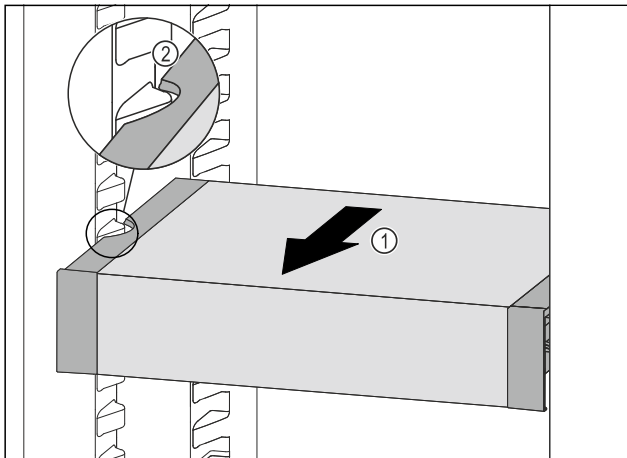

Fig. 90
- ▶ Pull VarioSafe forwards Fig. 90 (1) until the recesses in the side of the VarioSafe are at the level of the support rib in the refrigerator compartment. Fig. 90 (2)